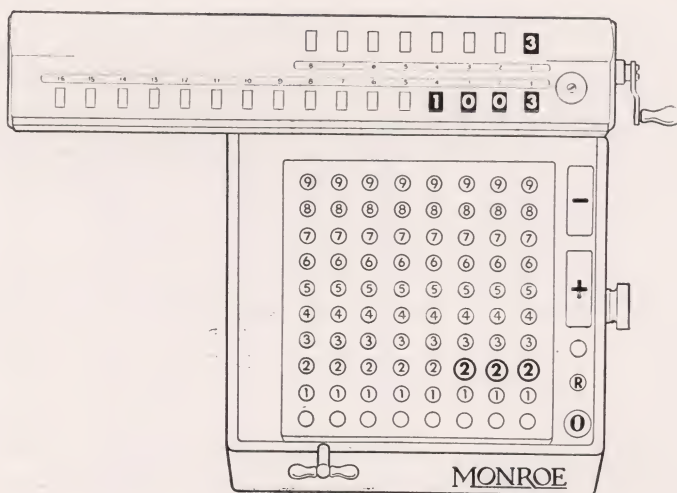

Figure 2
Step 3—Change keyboard set-up to 222. Depress the plus bar once and the final result, 1003, appears in the lower dials as shown in Figure 2. The upper dials show 3 indicating the number of items added. When more than 9 items are added the upper dials figure is disregarded.